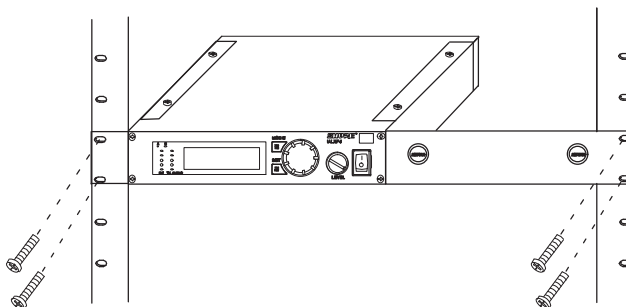

FIGURE 50
3. Slide the receiver into an 19-inch audio equipment rack, as shown in Figure 50.